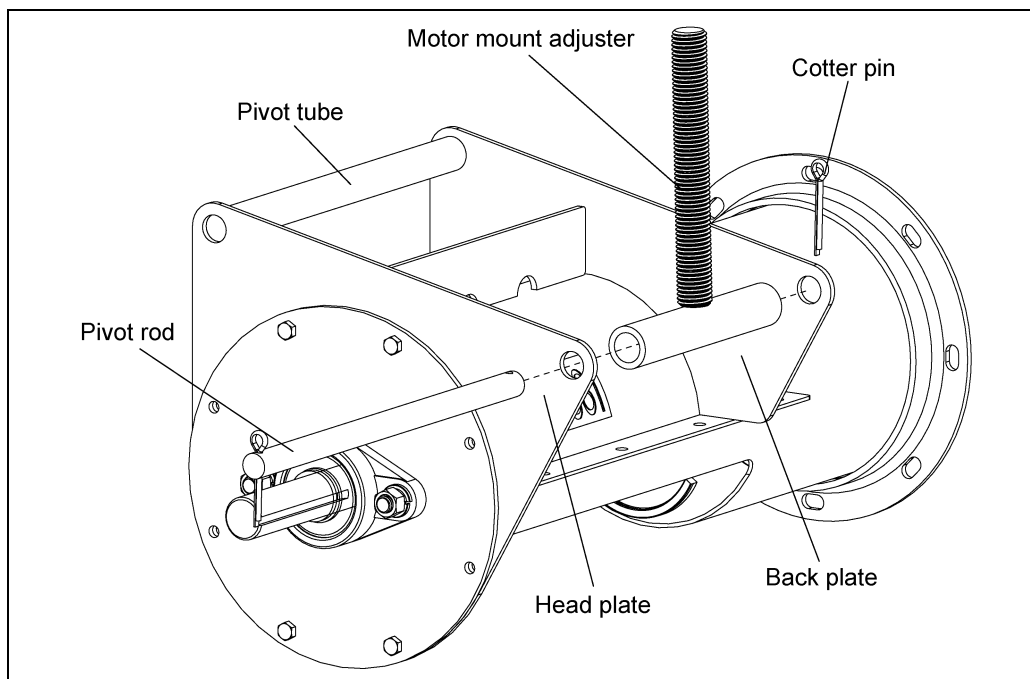

Figure 4E
2. Insert pivot rod through the back and head plates and motor mount adjuster. Secure in place with two (2) 3/16" x 2" cotter pins. (See Figure 4E.)